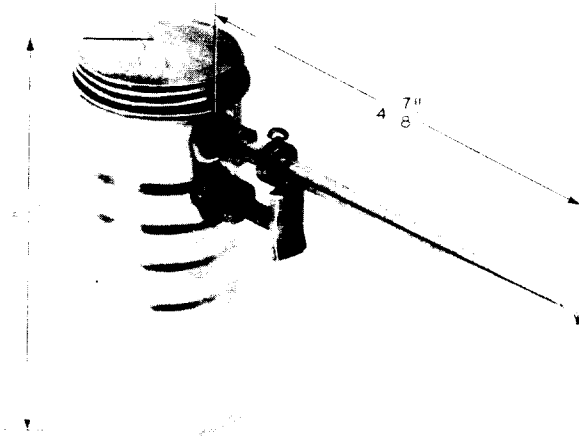

Fig. 6—KS-14796 Oiler
2.09 **KS-14796 Oiler:** The KS-14796 oiler (Fig. 6) is a pump-type oil can designed to produce either a measured quantity or a small steady stream of light oil (6-ounce capacity). The KS-14796 is intended for general use and replaces the KS-8239, L1, oil can.